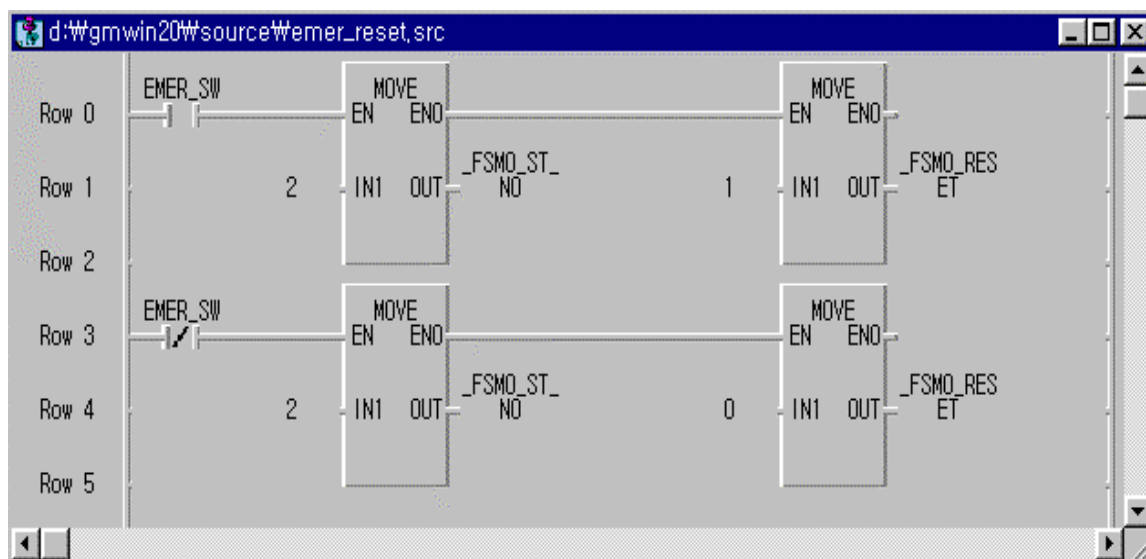

Fig. 6.6.4(C) Reset program of all output in appropriate remote station when emergency occurred
Fig. 6.6.4(C) is an example of program that simultaneously resets digital and special module output of remote I/O when EMER_SW contact of PLC CPU is set to 'On' in remote system of Fig. 6.6.4(A). To reset all I/O while it is set to 'On' as level input and to perform normal operation, special module initialization should be performed again using initialization *function block* of special module.